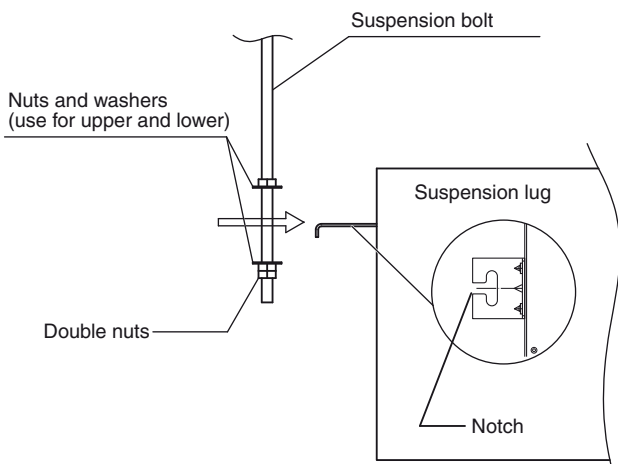

Fig.3-5
- (3) Thread the 3 hexagonal nuts and 2 washers (field supply) onto each of the 4 suspension bolts (Figs. 3-5 and 3-6). Use 1 nut and 1 washer for the upper part, and 2 nuts and 1 washer for the lower part, so that the unit will not fall off the suspension lugs.